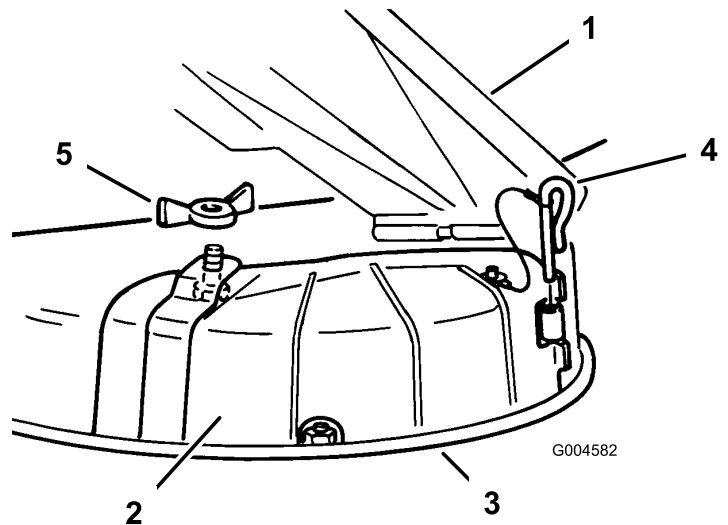

Figure 11
3. Remove the wing nut and bolt securing the cover in place (Figure 11).
4. Remove the hinge pin securing the cover to the deck (Figure 11).
3. Lift the grass deflector and place the discharge cover over the opening onto the lower lip of the mower and slide it into the front hinge (Figure 11).
4. Slide the hinge pin through the hinge (Figure 11).
5. Secure the discharge cover to the mower with the wing nut (Figure 11).